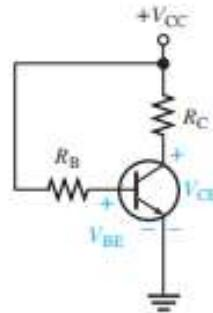

Fig. 2.11 Base biasing (similar to circuit shown in lab # 6, figure 6.1)
2.5 Base Biasing: This method of biasing is common in switching circuits. Fig. 2.11 shows a base-biased transistor. The analysis of this circuit for the linear region shows that it is directly dependent on Starting with Kirchhoff's voltage law around the base circuit,
- Kirchhoff's voltage law applied around the collector circuit in Figure 2.11 gives the following equation: